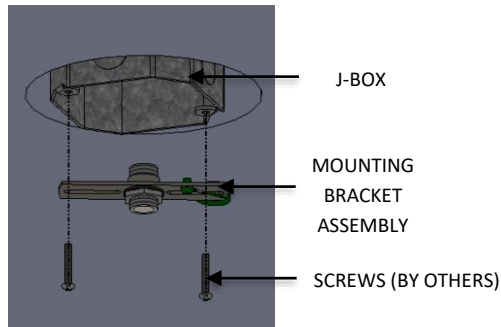

FIG. 15 – CORD INSTALLATION
1. ATTACH MOUNTING BRACKET TO JUNCTION BOX (BY OTHER) as shown in FIG.15.